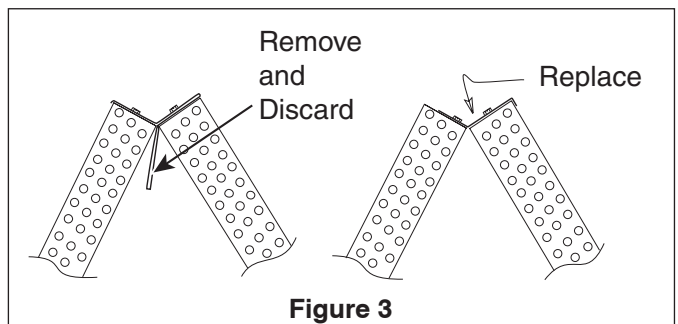

Figure 3
- b. On models 5TXCC005, 5TXCB006, 5TXCC007, 5TXCD008, and 5TXCC009 only, remove the factory installed two-piece baffle assembly from the top of the coil by removing the 5/16" hex head screws and discard the inner water management baffle. See Figure 3. Replace only the top baffle using the same screws previously provided.
- b. Models 5TXCC005, 5TXCB006, 5TXCC007, 5TXCD008, and 5TXCC009 only: Remove the factory installed two-piece baffle assembly from the top of the coil by removing the 5/16" hex head screws and discard the inner water management baffle. See Figure 3. Replace only the top baffle using the same screws previously provided.
- On models 5TXCC005, 5TXCB006, 5TXCC007, 5TXCD008, and 5TXCC009 only, remove the factory installed two-piece baffle assembly from the top of the coil by removing the 5/16" hex head screws and discard the inner water management baffle. See Figure 3. Replace only the top baffle using the same screws previously provided.